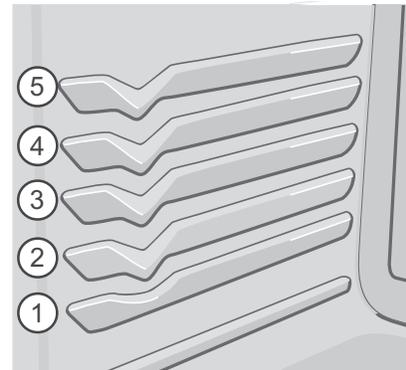

Figure 12: Rack positions
- For best results when baking cakes using two oven racks, place racks in positions 1 and 3 (See Figure 12).